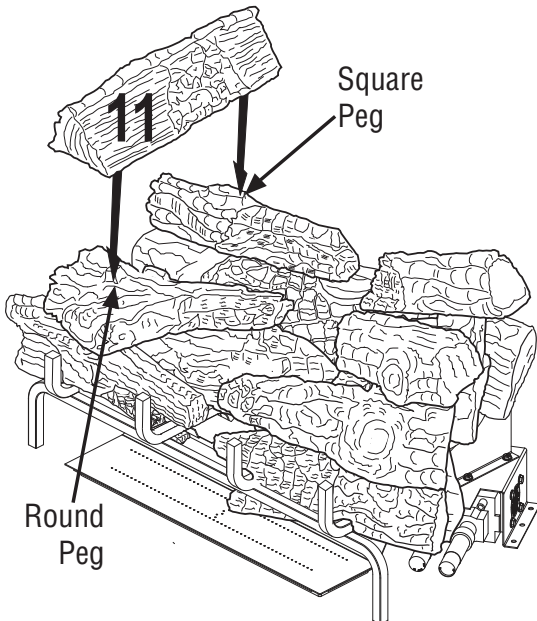

Figure 31 - Installing Log # 11
- Place the left top log (#11) on top of the left back top log (#5) and left top forked log (#6) as shown in **Figure 31, Page 20**. Match the round peg on the top of the left top forked log (#6) with the round hole on the bottom of the top left log (#11) and rectangular peg on the top of the left back top log (#5) with the rectangular hole on the bottom of the top left log (#11).